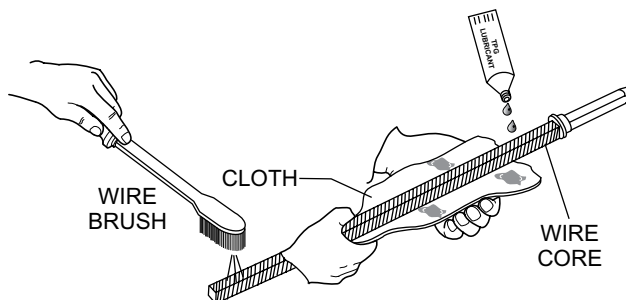

Figure 11. Cleaning Wire Core
10. Thoroughly clean wire core (Figure 11) if it is being reused. A wire brush may be required to remove hardened residue.
11. Apply a light amount of DuBois "TPG" lubricant (Figure 11) or a good grade bearing grease to the entire length of the wire core.